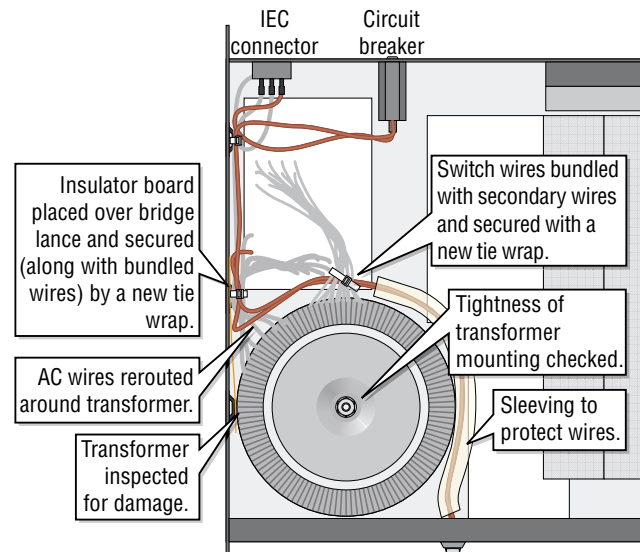

Figure 3. The amplifier after modification.
6. Reroute the wires around the transformer as shown in Figure 3.